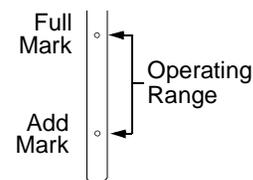

Figure 53
- Always keep the oil level between the full and the add marks on the dipstick. See Figure 53.
- In stages, SLOWLY pour oil into the engine until the crankcase oil level reaches the “FULL” mark on the dipstick. Refer to Figure 53.